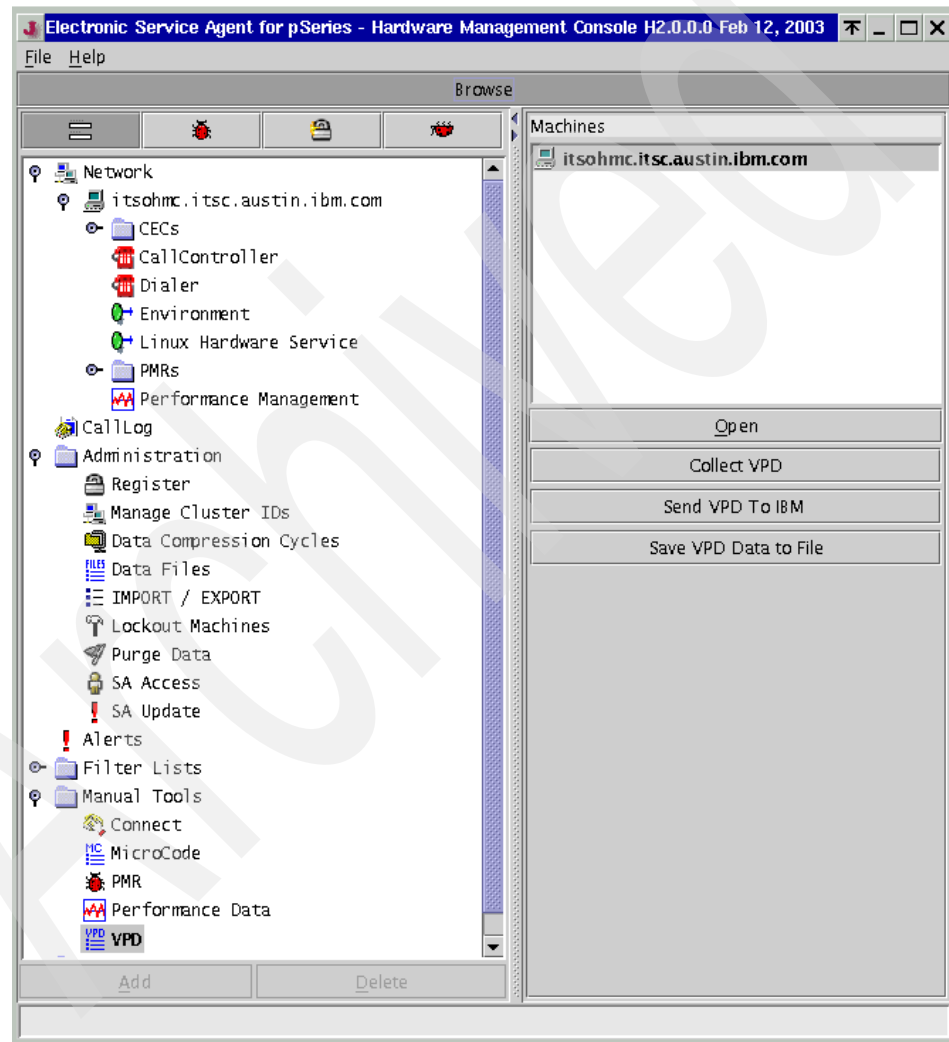

Figure 12-9 Service Agent: VPD tasks
1. In the navigation area under Manual Tools click **VPD**. This will open a menu of managed systems for which VPD tasks are accessible, shown in Figure 12-9.